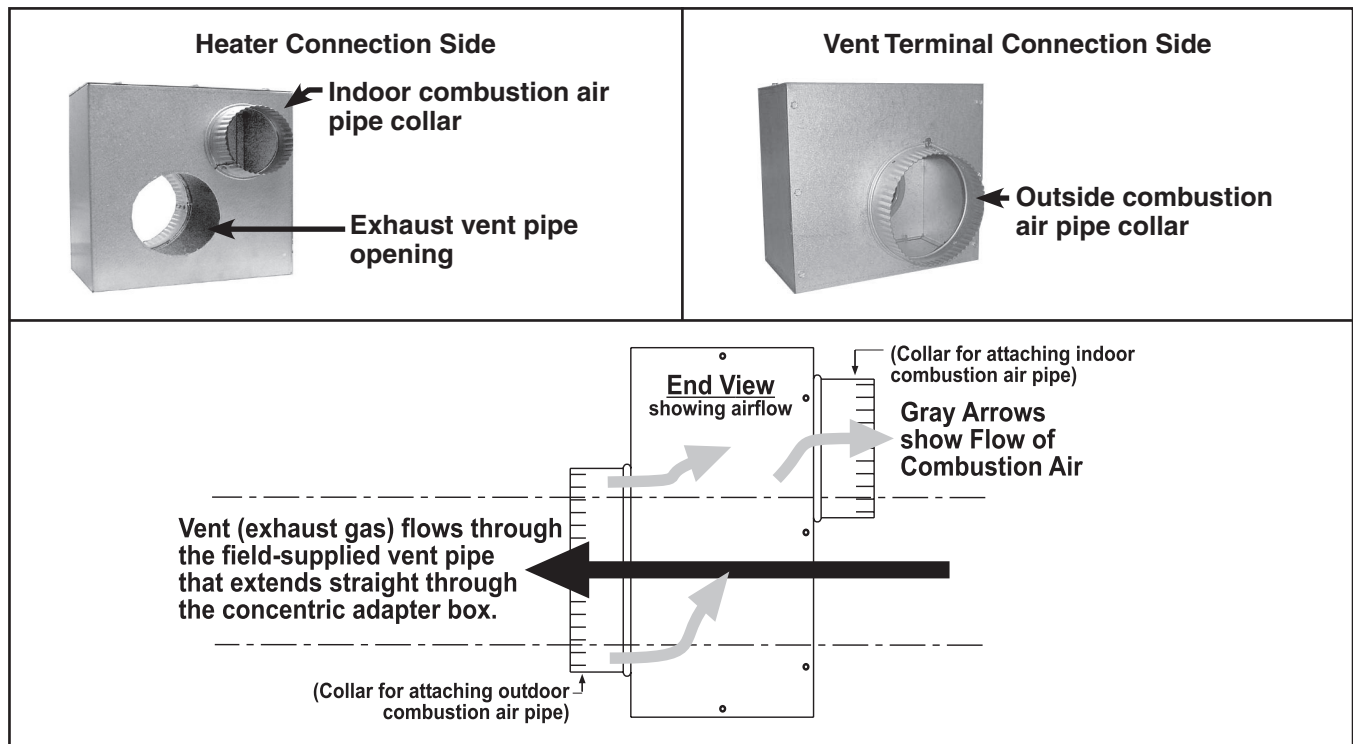

Figure 3. Concentric Adapter Box
- **Figure 3** shows a typical concentric adapter box and its airflow.